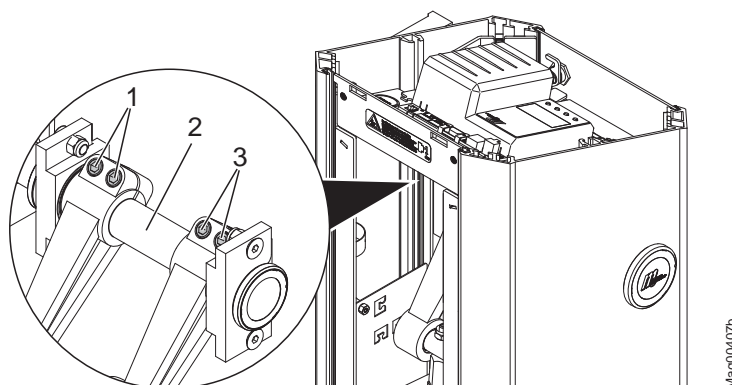
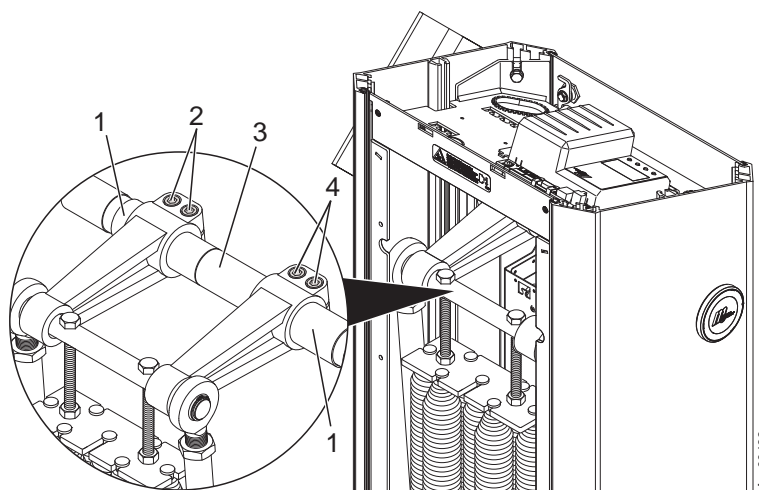

Fig. 35: Access XL – Loosen hexagon socket screw
Fig. 36: Access XXL – Loosen hexagon socket screw
10. Loosen the 4 hexagon socket screws 10 AF at the two clamping levers. Do not remove the hexagon socket screws. → For Access XL see page 74, Fig. 35 and for Access XXL see page 74, Fig. 36.